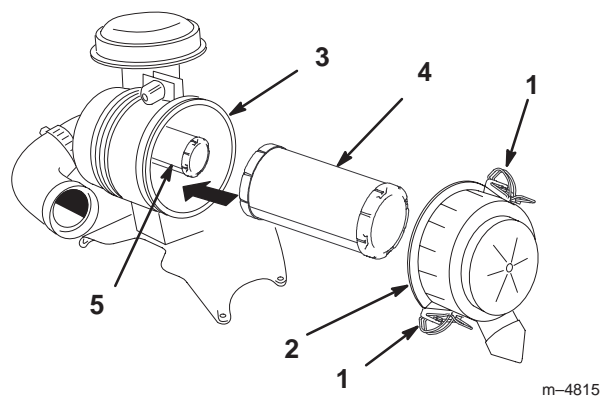

Figure 30
3. Release the latches on the air cleaner and pull the air cleaner cover off of the air cleaner body (Fig. 30).
5. Gently slide the primary filter out of the air cleaner body (Fig. 30). Avoid knocking the filter into the side of the body.
2. If the safety filter is being replaced, carefully slide it into the filter body (Fig. 30).
3. Carefully slide the primary filter over the safety filter (Fig. 30). Ensure that it is fully seated by pushing on the outer rim of the filter while installing it.
4. Install the air cleaner cover with the side indicated as **UP** facing up and secure the latches (Fig. 30).